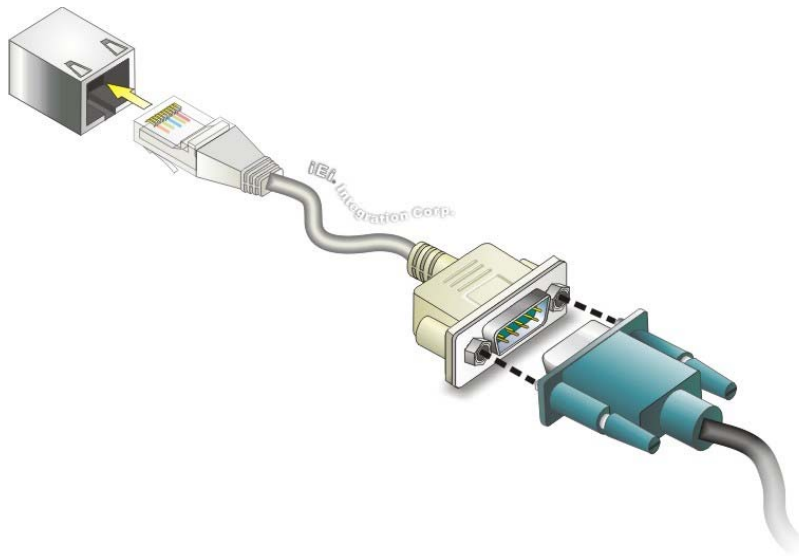

Figure 3-15: Serial Device Connector
Step 2: **Insert the RJ-45 to D-sub 9 cable.** See **Figure 3-15**.